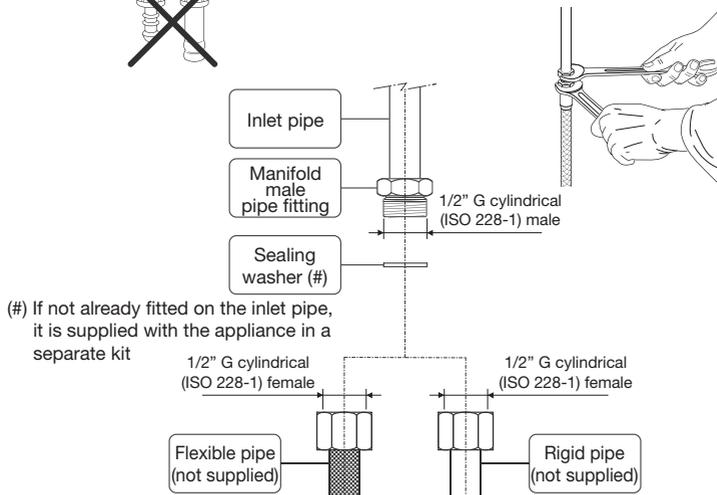

Fig. 9.3
- if compression fittings are used, you tighten them firmly using two spanners (fig. 9.3).
- use two spanners when connecting the rigid or flexible pipe (fig. 9.3).